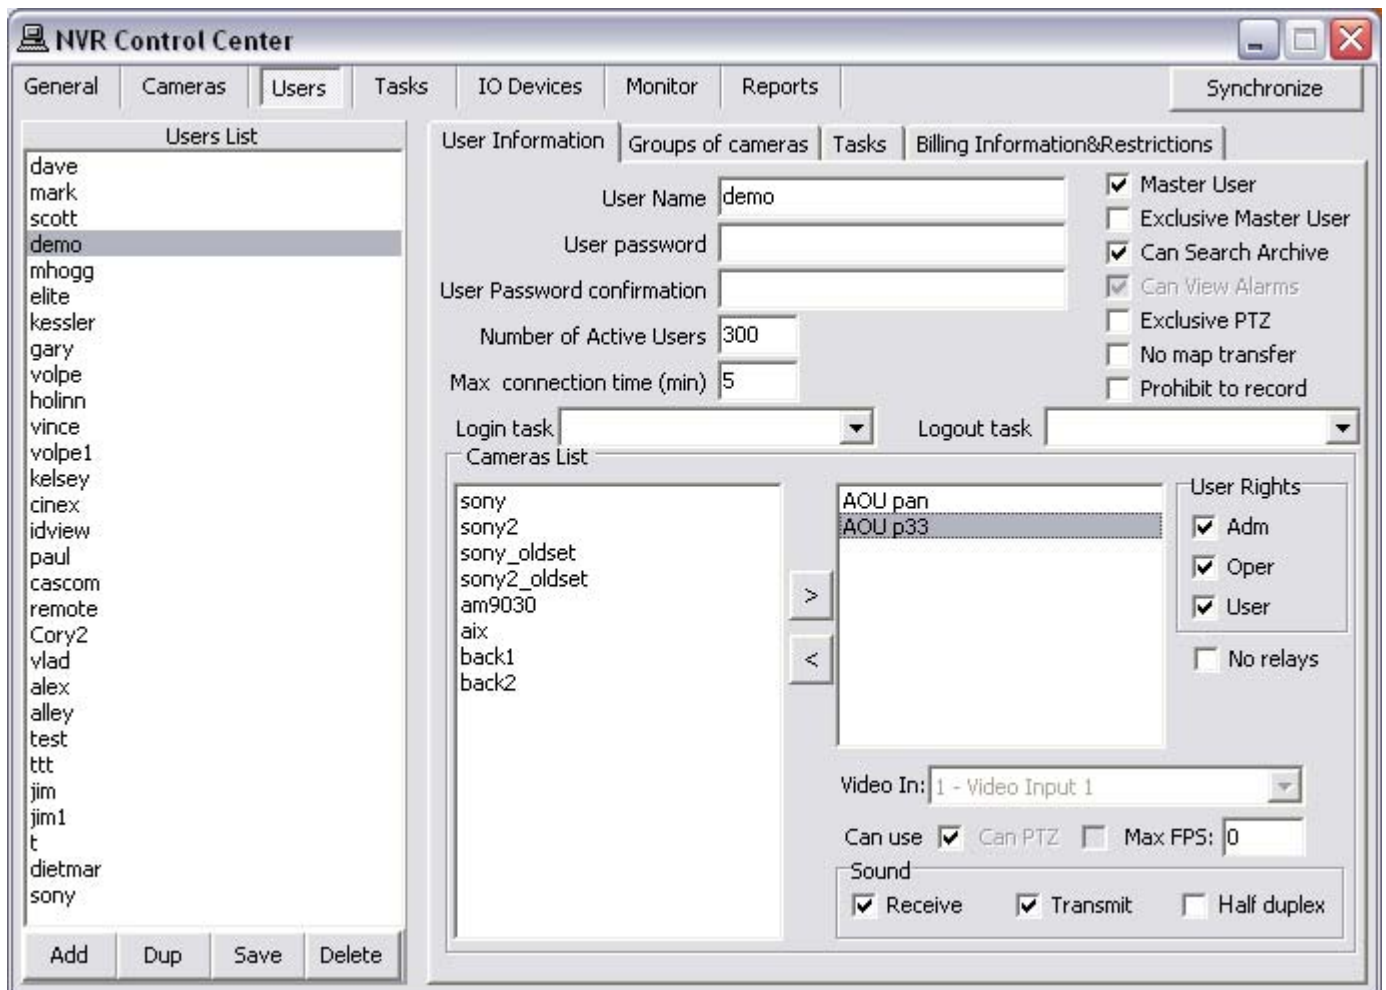

Fig 21. NVR Control Center — User — Users Information
1. In the **NVR Control Center — Users** select a user from the **Users List** (Fig 21).